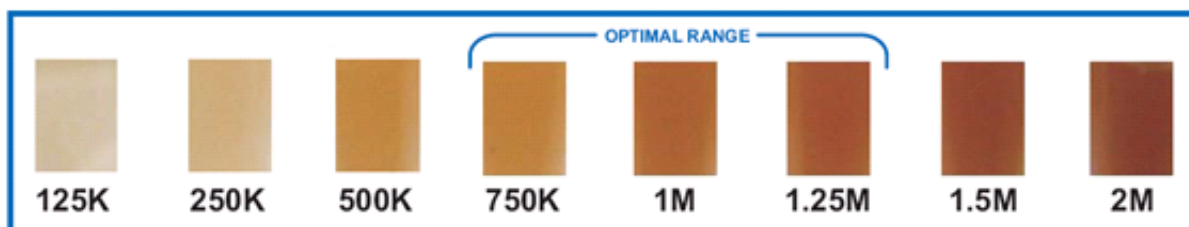

Figure 39 The SOLiD™ Bead Concentration Chart (facsimile). For best results, use the SOLiD™ Bead Concentration Chart (PN 4415131), supplied separately.
3. Use the SOLiD™ Bead Concentration Chart (Applied Biosystems PN 4415131) to estimate the bead concentration of the beads (see Figure 39 for a picture of the chart; for best results use the official chart).